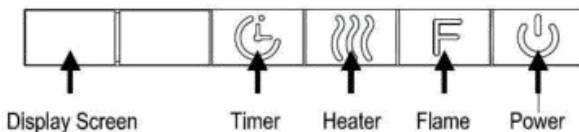

Fig.3
2. Using the remote control(Fig.4), functions same as control panel (Fig.3).